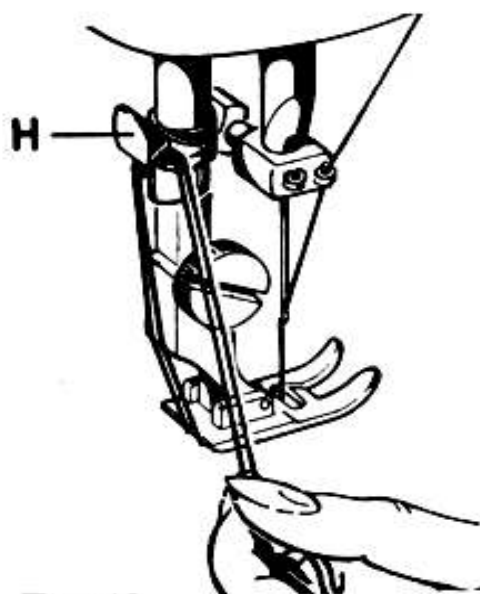

Fig. 18
- Draw fabric away from presser foot and draw threads, keeping them taut through thread-cutter « H » (Fig. 18).